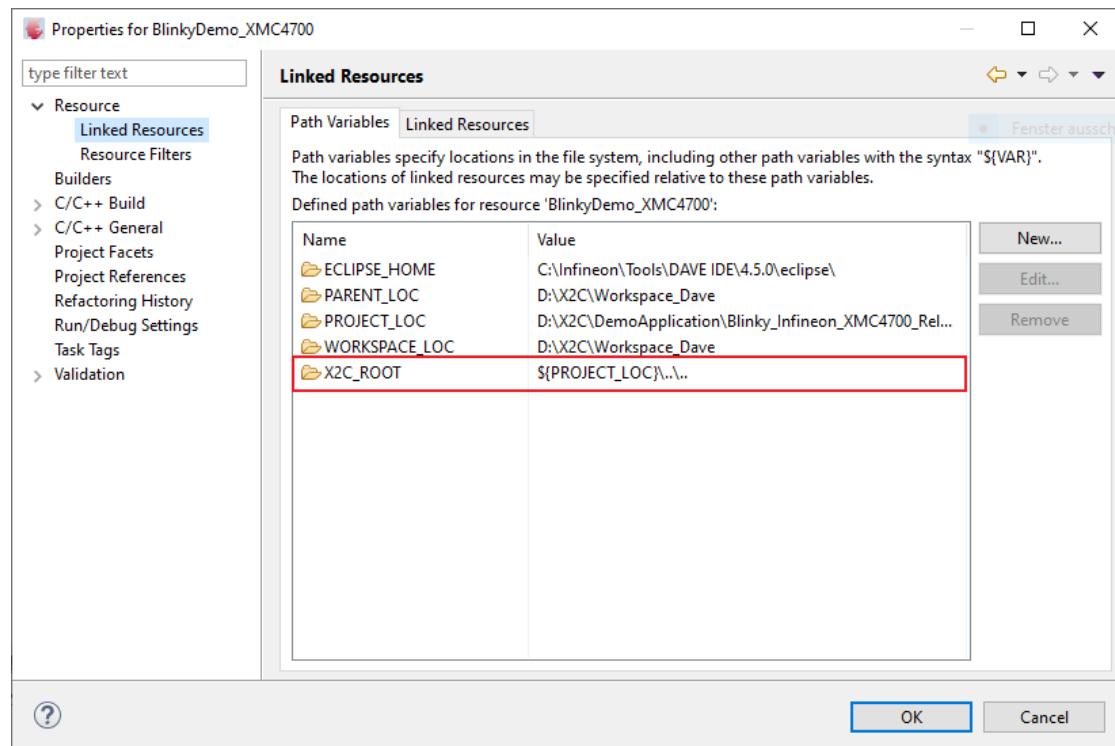
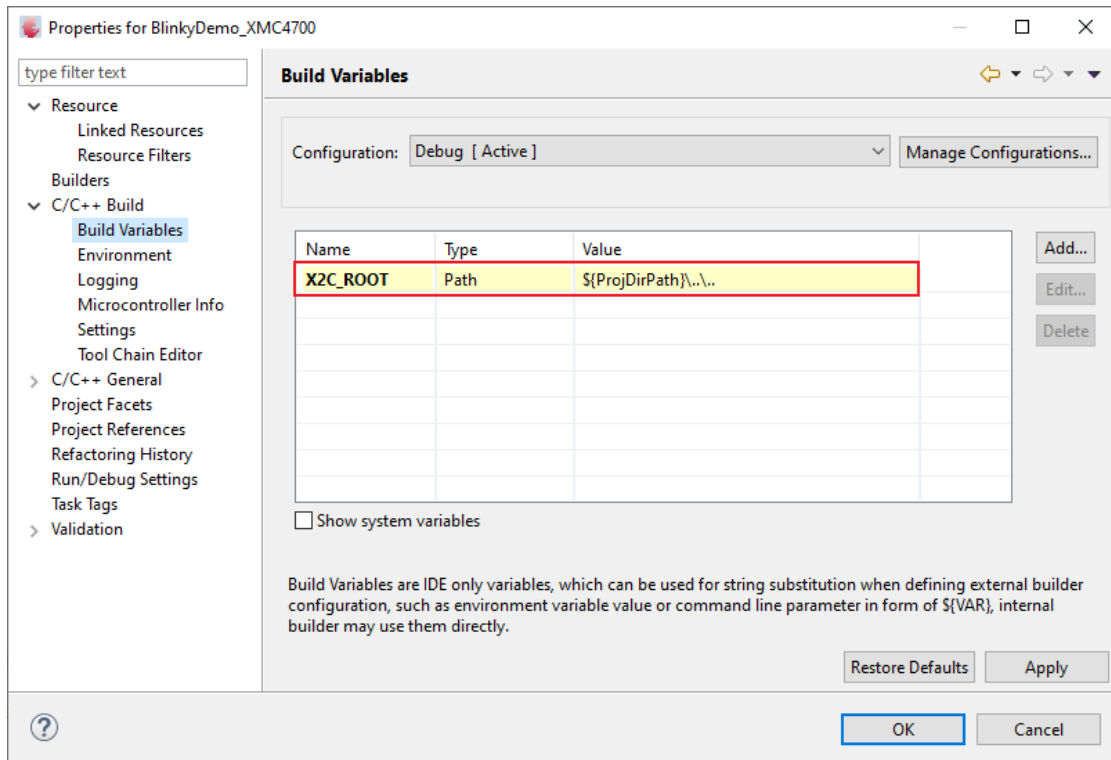

Figure 36: *DAVE IDE* resources settings
Figure 37: DAVE IDE build variables setting
3. In the *DAVE IDE* file structure of the *Blinky* demo project are two virtual folders *X2C-Blocks* and *X2C-Core*, which are linked relatively to the *X2C* directory. If the *Blinky* demo project is copied/moved to a different location, the resource property *X2C_ROOT* as seen in Figure 36 and the build variable *X2CDirPath* as seen in Figure 37 have to be adapted.